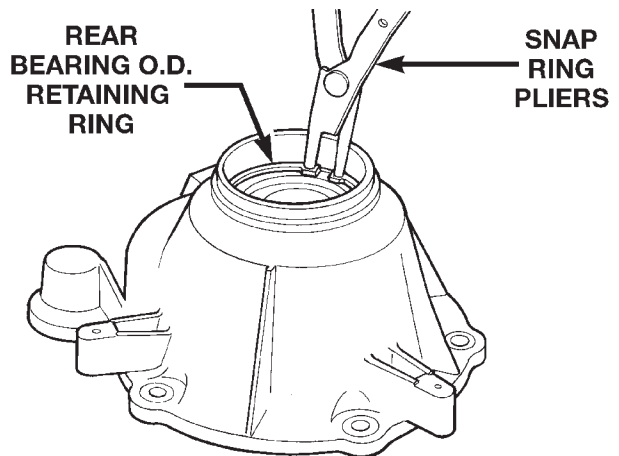

Fig. 88 Rear Bearing Retaining Ring Installation
- (3) Install rear bearing O.D. retaining ring with snap-ring pliers (Fig. 88). Be sure retaining ring is fully seated in retainer groove.